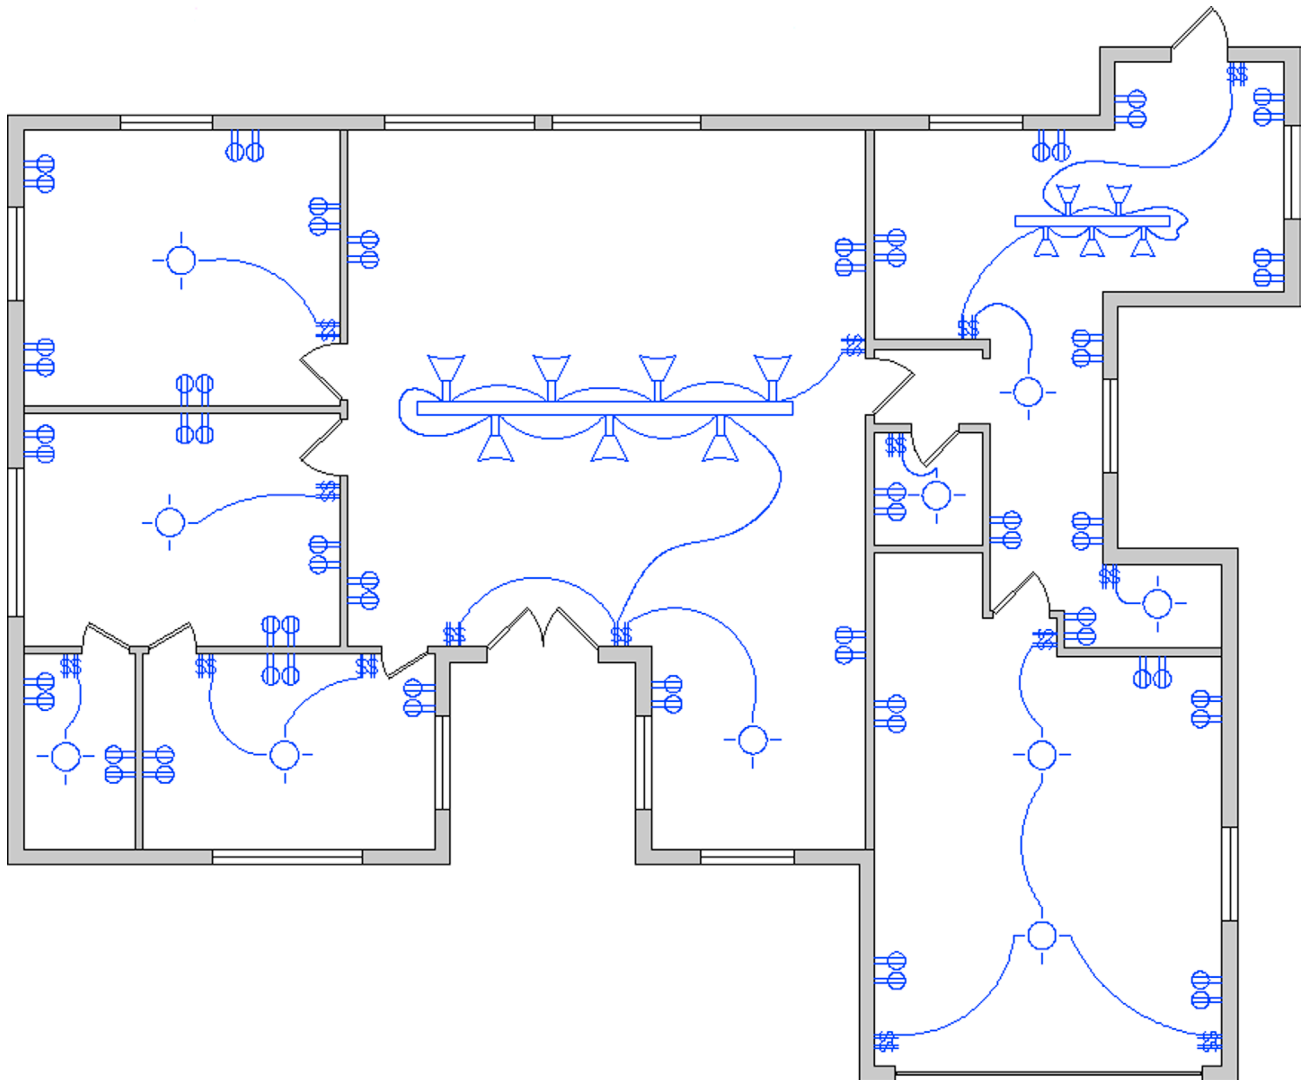

FIGURE 14.46 Electrical layout.
Step 3. Lay out the electrical symbols as seen in the floor plan in Fig. 14.46. Some of the wiring runs are splines and some are arcs.